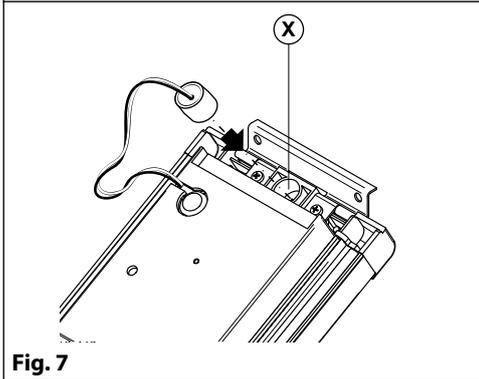

Fig. 7
7. Insert the microphone of the door unit amplifier into the microphone hole **X (Fig. 7)**;